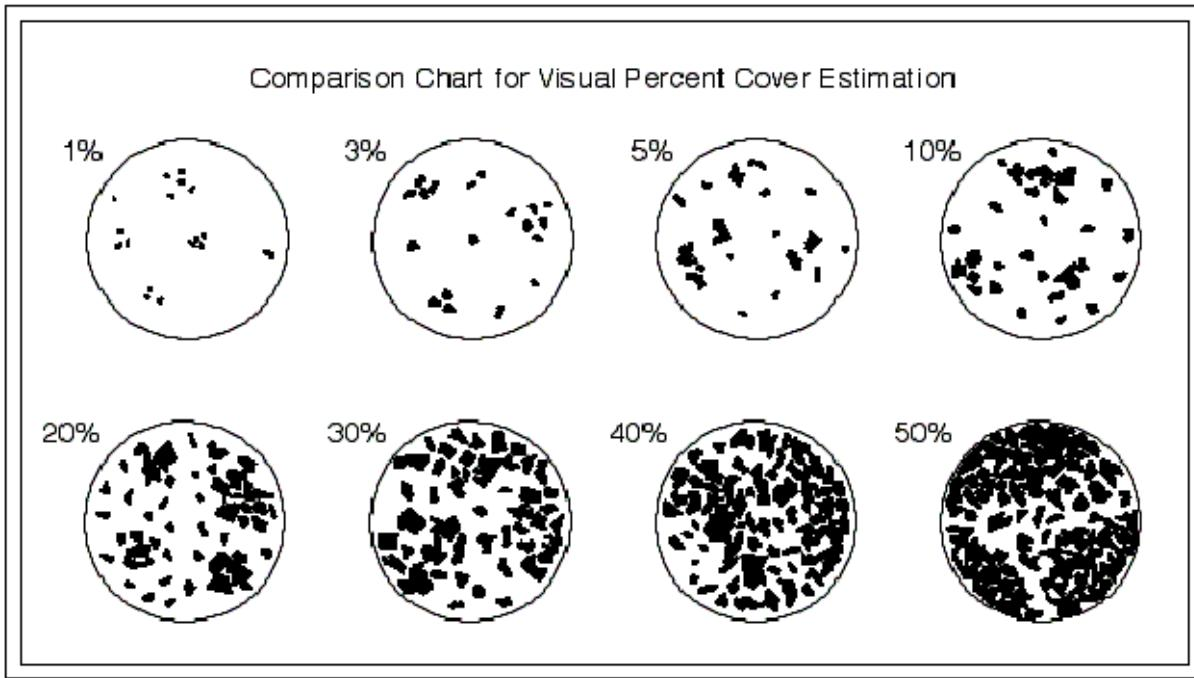

Figure 9: Guide for estimating percent cover. Source: www.nature.nps.gov
- We record the percent of all buds on the cluster in flower (from 0-100%), in units of 5% (i.e., no need to estimate 3% or 34%, just report 5% and 35% ... aim to be accurate within 10% but most important is consistency and taking photos). Figure 9 gives a visual guide for percent cover up to 50%.
- We record the percent of all berries on the cluster that have undergone veraison (from 0-100%), in units of 5% (i.e., no need to try to estimate 3% versus 5% ... hope to be accurate within 10% but most important is consistency and taking photos). Figure 9 gives a visual guide for percent cover up to 50%.